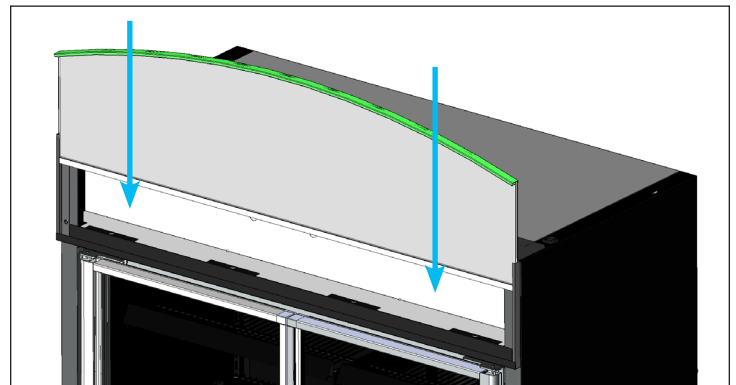

Fig. 3. Slide the sign panel assembly into place.
3. Slide the sign panel assembly into the sign frame channels. See fig. 3.